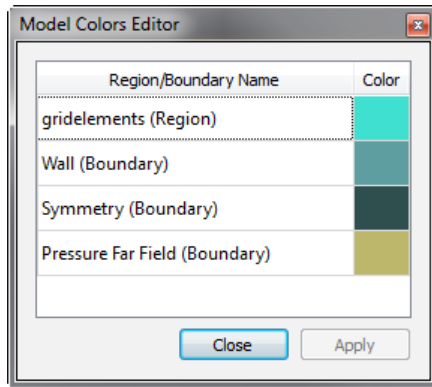

Figure 13.68: Models color editor
- Click on the *Model Colors Editor* button  (see Figure 13.68).